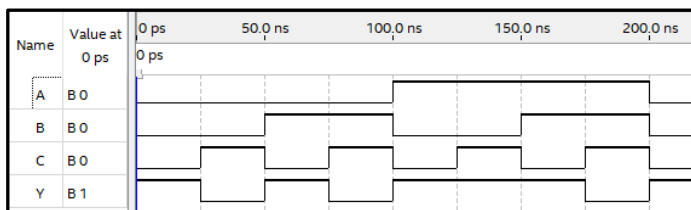

Figure 10: Output of Functional Simulation
0. Unfortunately, Quartus Prime Lite 18.1 does not support timing simulations for the MAX 10 devices that we will be using this semester. This may change in the future versions of Quartus Prime Lite. Because of this, you can only perform functional simulations for the MAX 10. But Quartus Prime Lite **does support timing simulations for all of the MAX V parts. Therefore, you **can** and should perform the timing simulation below using any MAX V part in items 5-7 below.**
2. Zoom in on the window. You should see something similar to Figure 10.